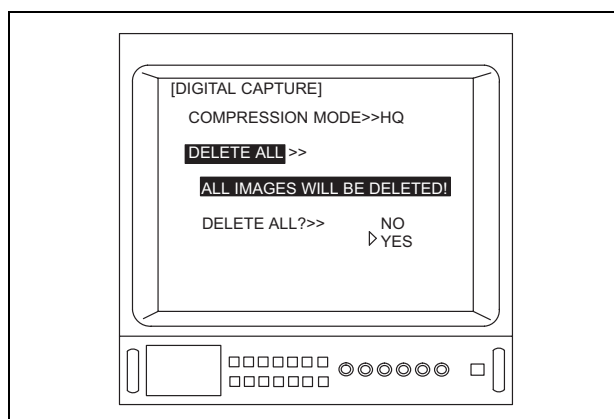

Figure 5.106
8. Depress the menu switches “◀” or “▶”, or the “↑/↓/←/→” key on the keyboard to choose “YES” (see Figure 5.106).